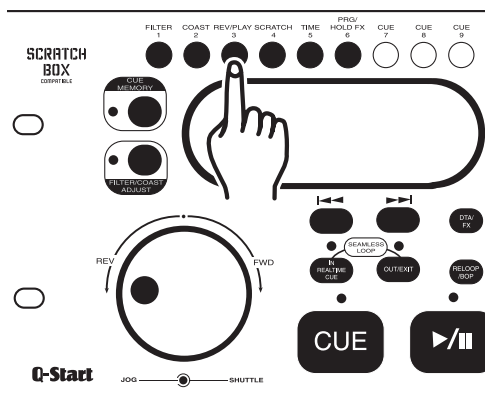

Figure 34
Reverse play allows you to play a track, loop, or sample backwards. This function is activated by pressing the *REV/PLAY BUTTON* (4) as in figure 34. This function will react differently to different playback modes: